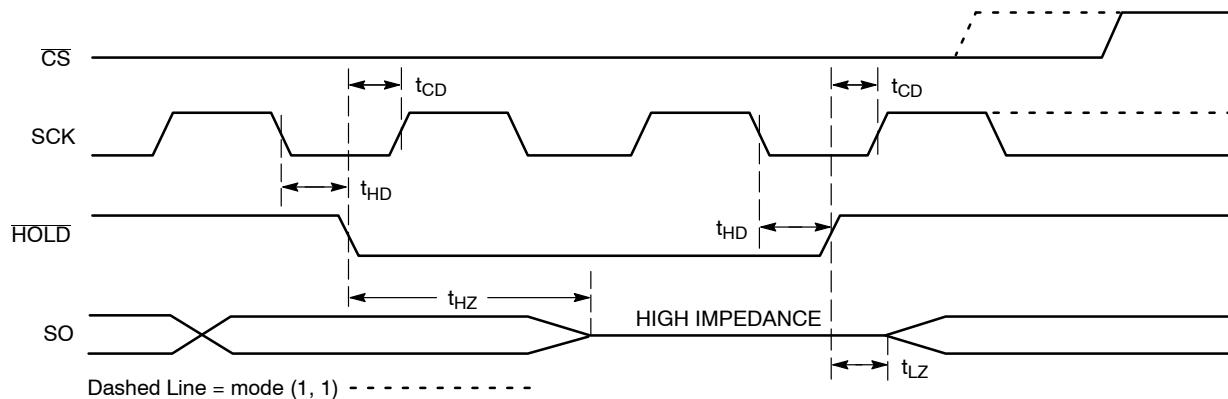

Figure 11. HOLD Timing
The HOLD input can be used to pause communication between host and CAT25128. To pause, HOLD must be taken low while SCK is low (Figure 11). During the hold condition the device must remain selected (CS low). During the pause, the data output pin (SO) is tri-stated (high impedance) and SI transitions are ignored. To resume communication, HOLD must be taken high while SCK is low.